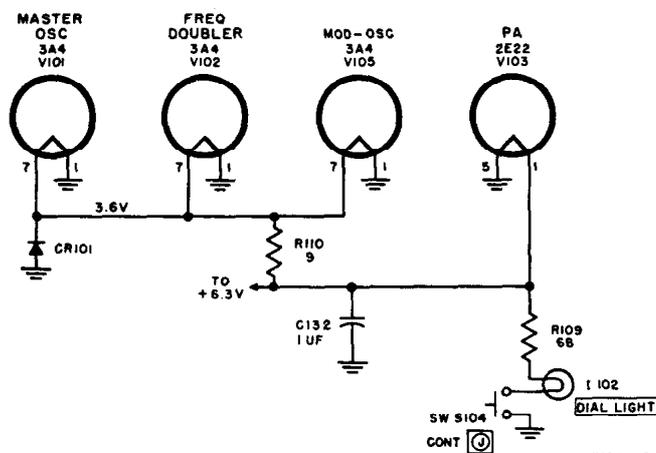

Figure 90. Transmitter filaments, simplified schematic diagram.
116. Transmitter Filament Circuit (fig. 90)
- (1) Contacts 1 and 2 open, disconnecting the ground from switch section S102A.
- (2) Contacts 3 and 4 close, connecting terminal A 102A to switch section S102A.
- (3) Contacts 6 and 7 close, connecting the receiver antenna-matching transformer T114 (through S102F) to ground.
- (4) Contacts 11 and 12 close, connecting doublet terminal A102B to transmitter coil T110A.
c. When switch section S105-3, control ④ (fig. 88), is in the PHONE position only, the filaments of the transmitter tubes are off, unless the key or press-to-talk switch on the microphone is depressed. Contacts 14 and 15 close, connecting resistor R110 and filament pin 1 of tube V103 (fig. 90) to terminal 54 of receptacle J102, through switch section S103A.